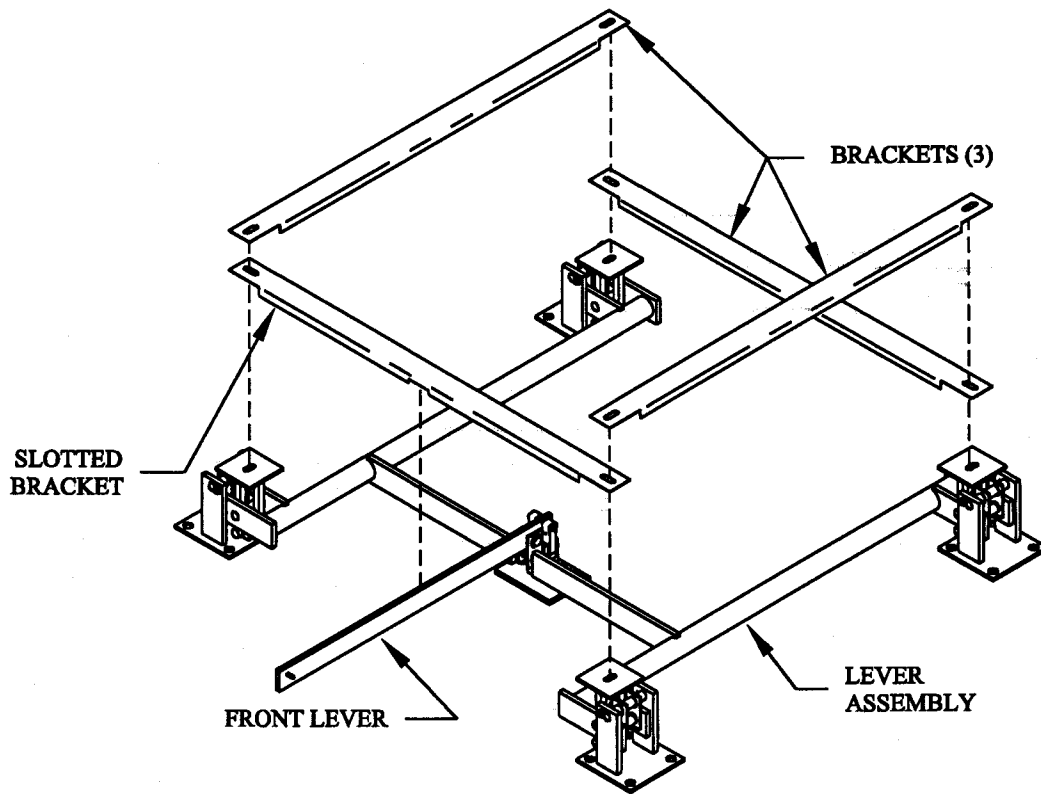
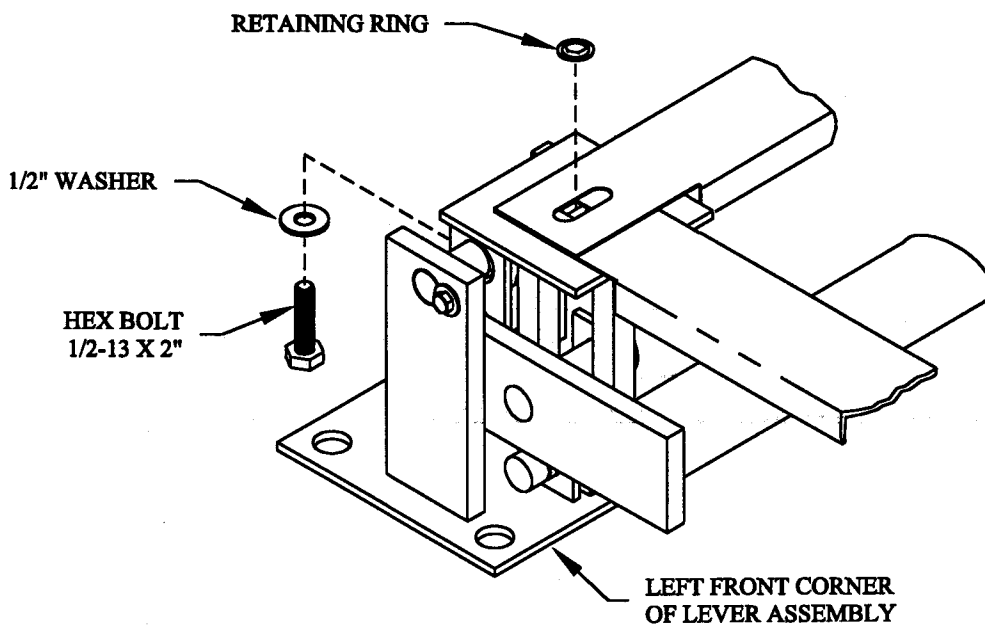

FIG. 10A
FIG. 10B
STEP 10. Place the stabilizer brackets over the four corners of the lever assembly. Be sure to place the slotted bracket in front so that it fits over the front lever. See Fig. 10A. Locate the hardware bag found in the hardware box. In each corner, slide the bolt 1/2-13 x 2" through the washer and up through the plate and brackets. Secure with retaining ring at four corners. See Fig. 10B.